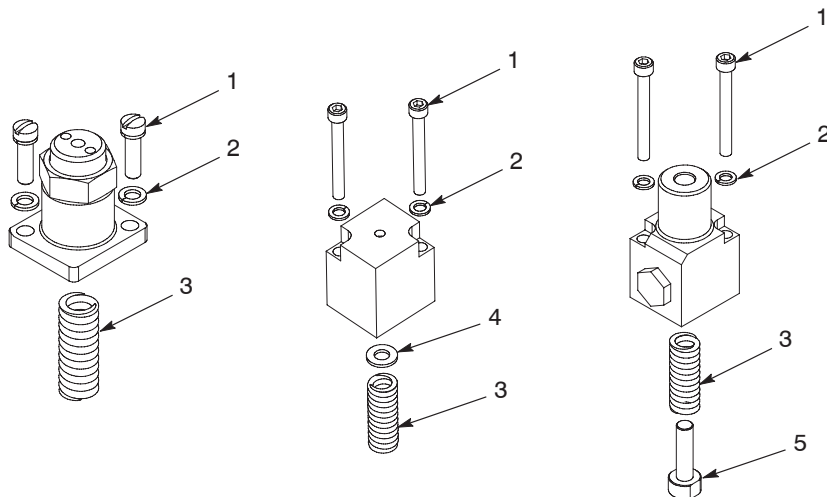

Figure 9-8 Air cap assembly components (adjustable, fixed, and OptiStroke air caps shown)
- See Figure 9-8. Remove the air cap assembly. If you are doing a major rebuild, remove and discard the compression spring.